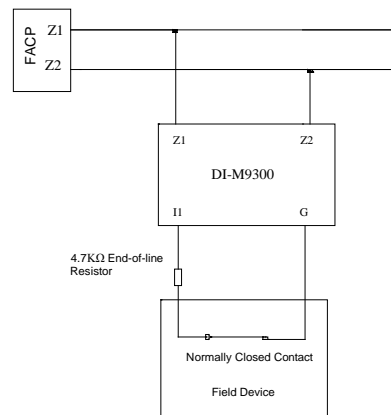

Fig. 7
- ✧ Connection of the module to field devices with normally-closed dry contact is shown in Fig.7.